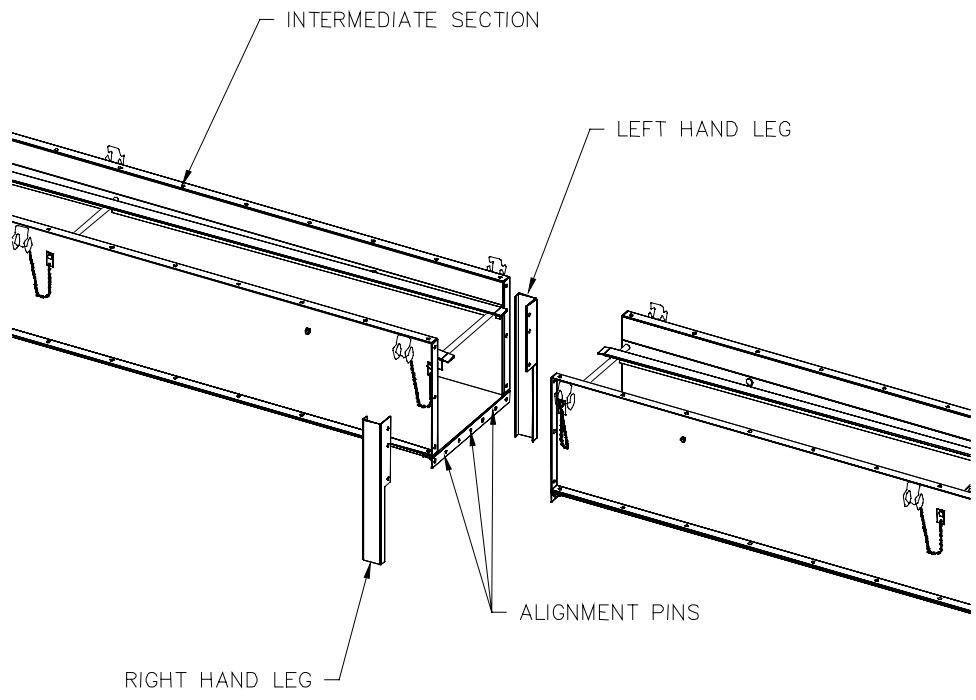

Figure 2-3B, Conveyor Section Assembly
- C. Attach a pair of optional support legs and complete fastening the two conveyor sections together as shown in **Figure 2-3B**. DO NOT TIGHTEN FASTENERS AT THIS TIME. Support legs are optionally furnished in right-hand/left-hand sets. One set is required at each conveyor section joint to insure proper alignment and support.
- D. Referring to **Figure 2-3B**, notice also that the bottom flanges of each conveyor section have several 3/8" diameter holes. As each conveyor section is assembled to the preceding section, drive bull-nose alignment pins through the matching pairs of the smaller 3/8" diameter holes. This arrangement insures that liners of adjoining conveyor sections form a smooth, even surface with no lip or ledge in which conveyed materials or flights might otherwise catch. Use a straightedge to verify that the liner surfaces of adjoining conveyor sections are even. If they are not, find and correct the problem.